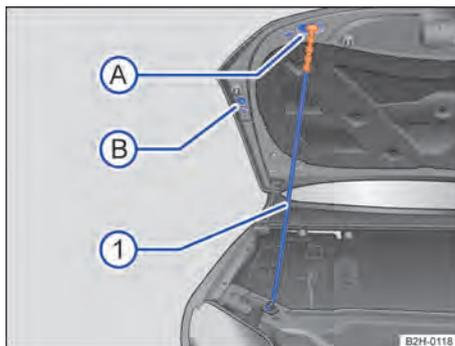

Fig. 182 Secure the engine compartment cover with the support rod (schematic representation).
5. Unclip the support rod from the contrasting colour handle, on the right side of the front panel → Fig. 182 ①.
6. Insert the support rod into the coloured handle, into support → Fig. 182 (A) or (B).
2. Disconnect the support rod from the coloured handle from the opening and fit it into the support on the right side of the front panel → Fig. 182 ①.